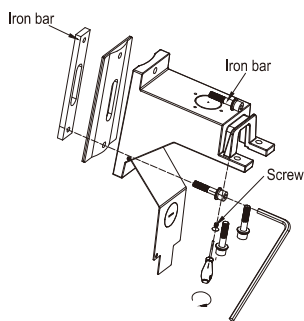

Fig 24
Step 1 . Use Allen wrench to unscrew the bolts and remove the strips. Use screwdriver to tighten the screws to open the cover plate, as shown in Figure 24:.